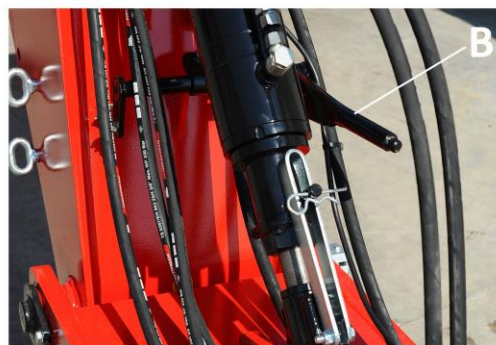

FIGURE 8
- As seen on Figure 8 there is brake system on wheels (A) .
- You can apply brake by pulling the lever over the tow bar (B).